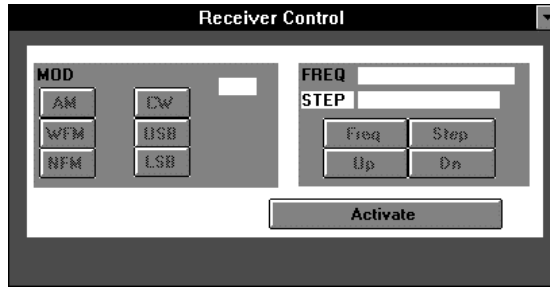

Figure 5-17: Receiver Control Dialog Box
1. Click **C**ontrol on the **Main Menu Bar** and then **R**eceiver to open the **Receiver Control** dialog box (Figure 5-17).